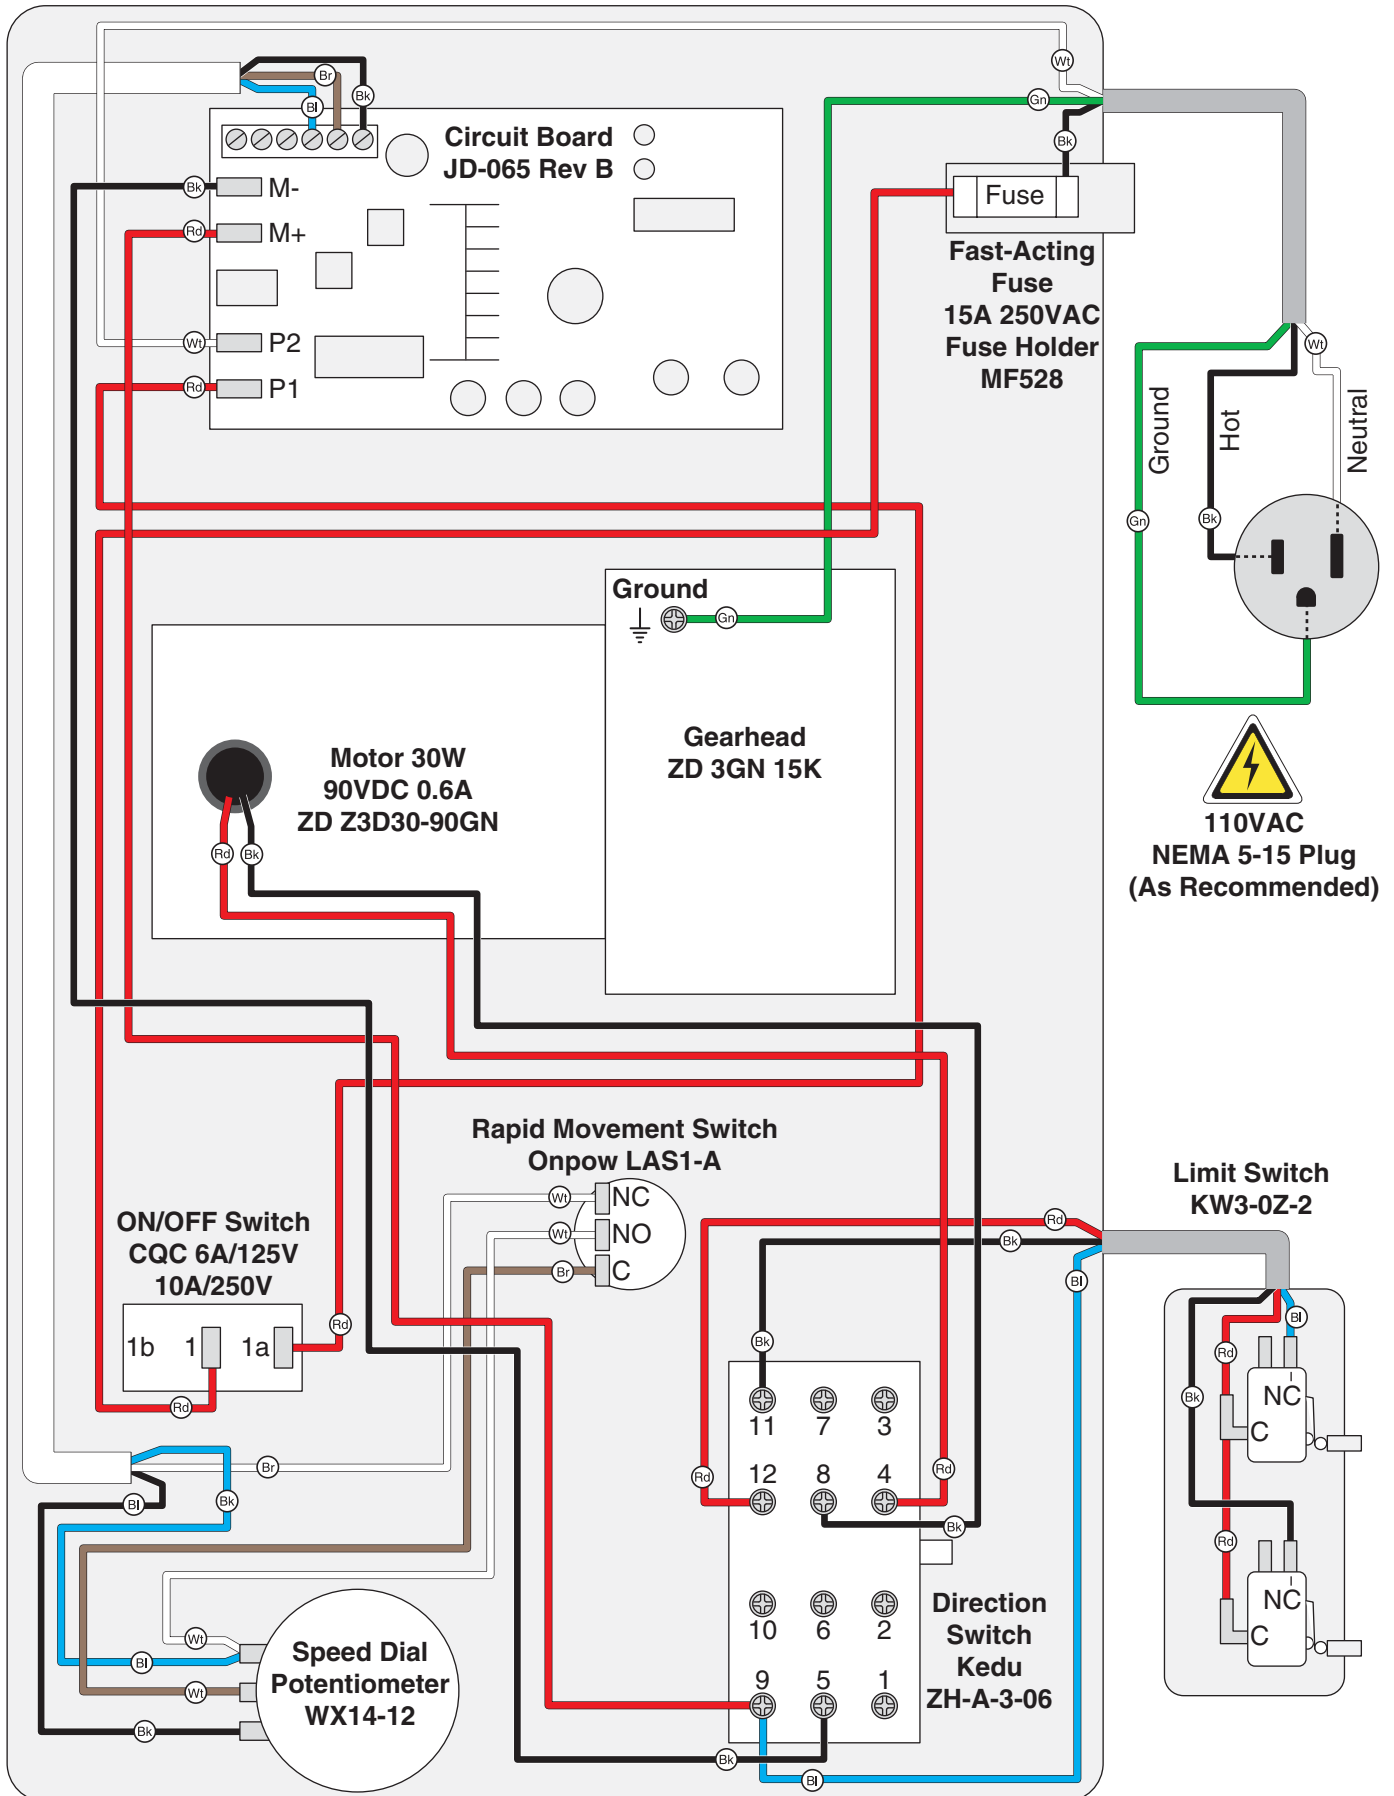

Figure 22. Removing motor brush.
- Remove the used motor brushes and install new motor brushes, as shown in **Figure 22**.